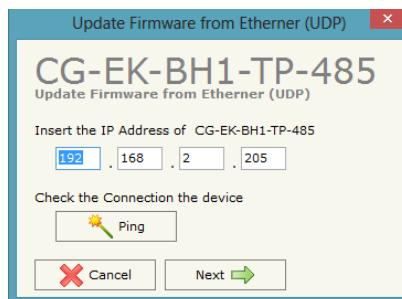

Figure 12 - Update configuration form
- Write the IP address **192.168.2.205** inside the Update Configuration form (see Figure 12 – Update configuration form)
- Provide the device IP address (see Figure 12 – Update configuration form). Make sure that the PC's network parameters are consistent with the IP address assigned to the device. Otherwise, change the PC's network settings
- Press *Ping* button; if you correctly applied the procedure, the text "*Device found!*" will appear (see Figure 12 – Update configuration form)
- Press *Next* button (see Figure 12 – Update configuration form)
In case of manual firmware update, replace “Sim67812.sim” file in the system folder “C:\Program Files (x86)\Ekinex\Compositor CGEKBH1TP485\Master”. After replacing, open *Update configurazione* form (see Figure 12 – Update configuration form) in the application program and start the proper sequence.